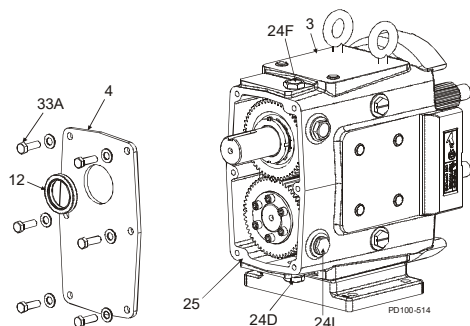

Figure 34 - Remove Gear Case Cover
1. Remove the oil drain plug (Figure 34, item 24D); drain the oil.
2. Remove the cap screws from the gear case (item 33A).